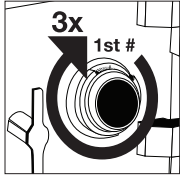

Figure 2
2. Turn the dial to the right passing 00 three times and stopping on the first number (Figure 2).